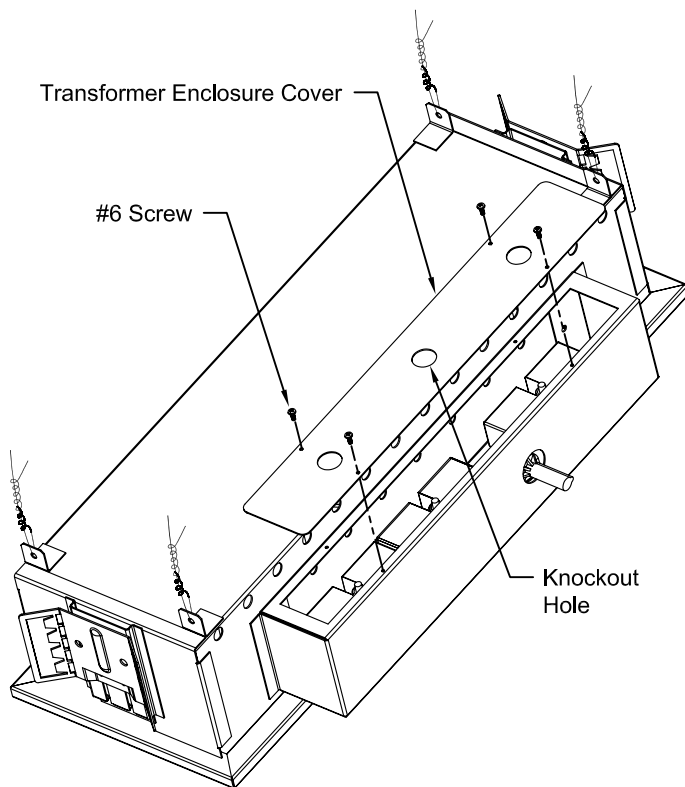

Figure 3
2. Remove Transformer Enclosure Cover by removing two (2) #6-32 Panhead Screws. See Fig. 3.
3. Pull electrical wires from Transformer Enclosure through 7/8 inch Knockout Hole in Enclosure Cover. See Fig. 3.